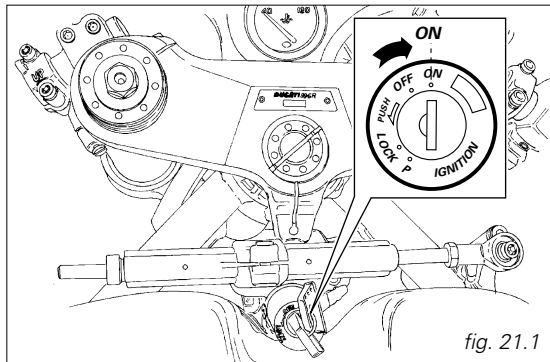

fig. 21.1
1) Move the ignition key to **ON** (fig. 21.1). Make sure both the green light **N** and the red light  on the instrument panel come on.